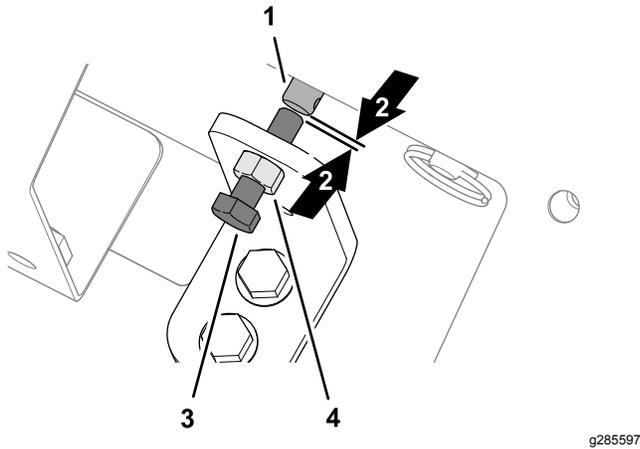

Figure 34
- Loosen the jam nut at the manual-override bracket (Figure 34).
- Rotate the hex-head screw for the valve override counter clockwise until you see a small gap between the end of the screw and the end of the stem of the floor-speed solenoid (Figure 34).
- Tighten the jam nut (Figure 34).